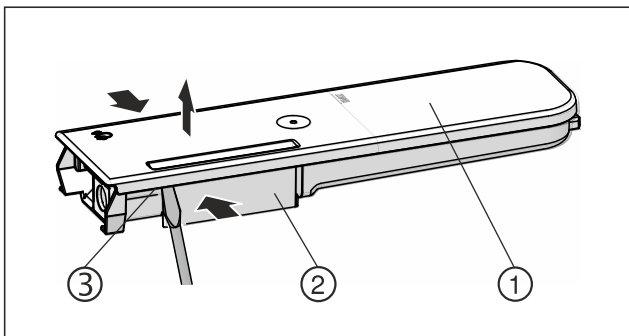

Fig. 122
- ▶ Push the water tanks Fig. 122 (2) together, leverage the cover Fig. 122 (1) carefully over the latching tabs Fig. 122 (3) and lift it up.
- ▶ Move the cover Fig. 122 (1) slightly forwards and back, and remove to the top.